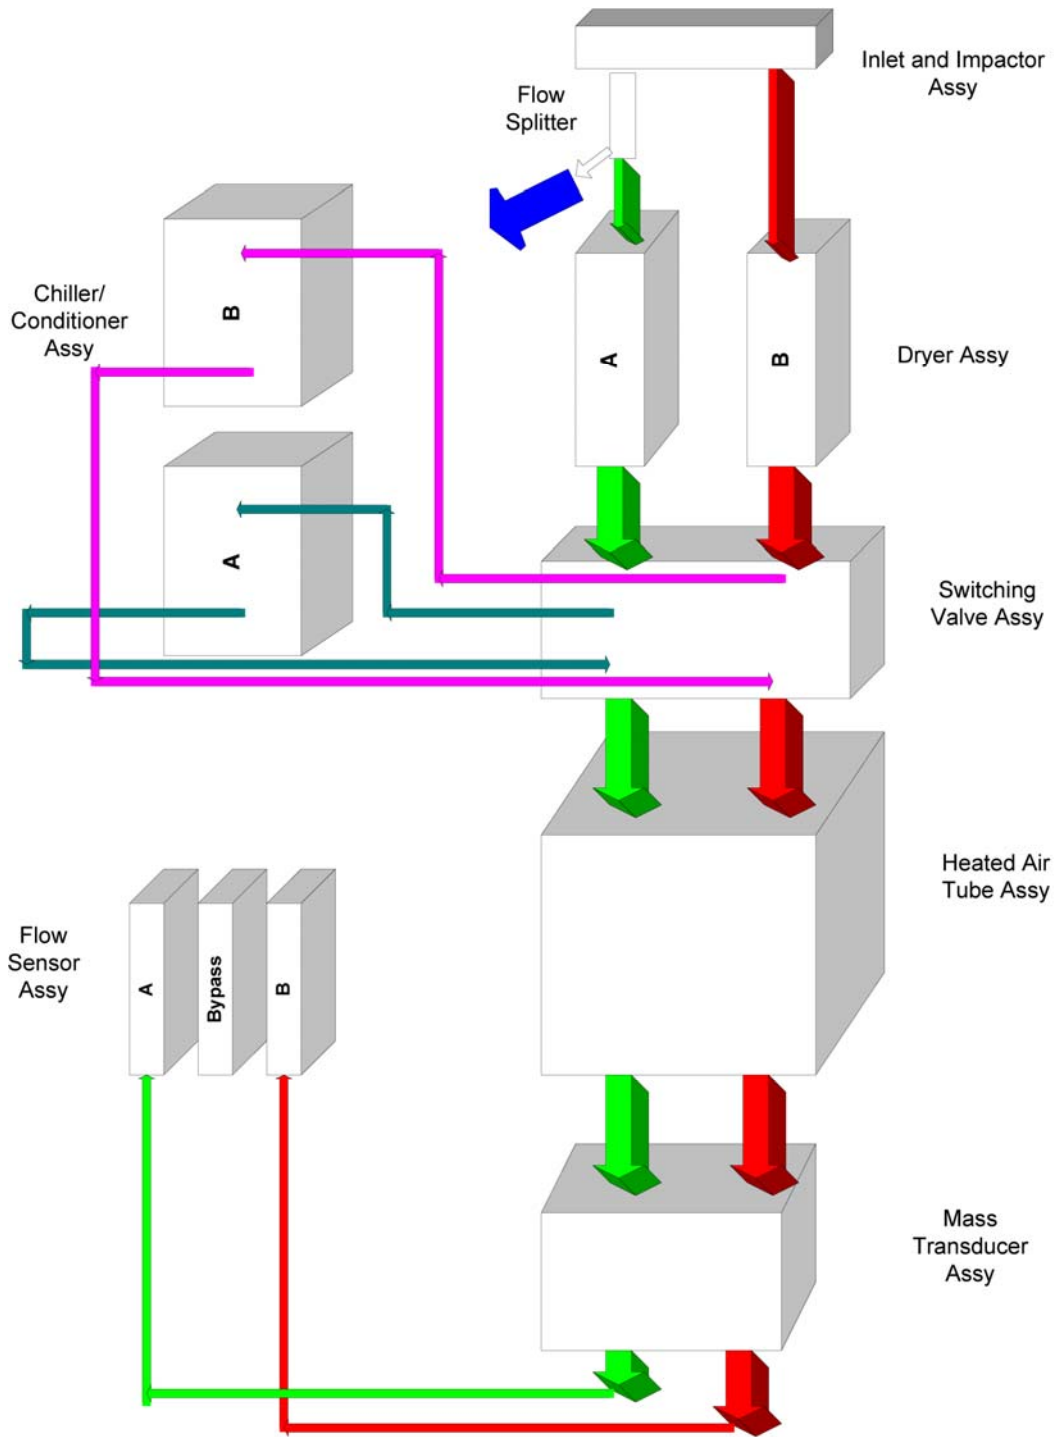

Figure 9-5. Flow paths of the fine (A) and coarse (B) streams.
There are numerous places between the top of the inlet and the TEOM® microbalance where leaks could occur. A leak that persists must be located and corrected. The most common cause for a leak is a failure of the press-to-seal connectors. In case of a leak test failure, first check these, and adjust or replace if necessary. If the failure persists, the best method to isolate a leak in any sampler is to cap the flow at about the mid-point and then determine which section of the sampler is leaking. Ideally, the sections would be reduced by half again until the leak is located. The steps below provide guidance to isolate leaks in the 1405-DF. **Figure 9-5** shows the flow paths of the fine (A) and coarse (B) streams and is a visual guide to “section” the system during a leak check. The steps to isolate a leak follow.